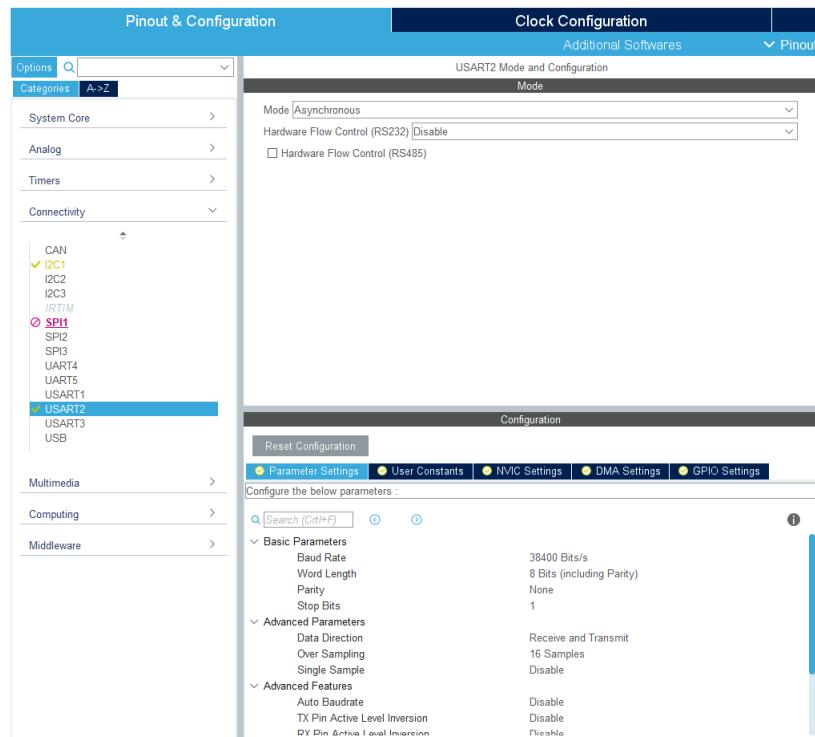

Figure 3.16: *CubeMX* baud-rate [3].
- You also need to inquire the baud-rate. In our case, you find it on *CubeMX* on the section *Categories < Connectivity < UART2 < Configuration*. So we can notice that the baud-rate is shown (cfr. fig. 3.16), and worths  $38\,400 \text{ Bits s}^{-1}$ . It is obvious to go into the *UART* section because the *UART* protocol is used through the USB port;